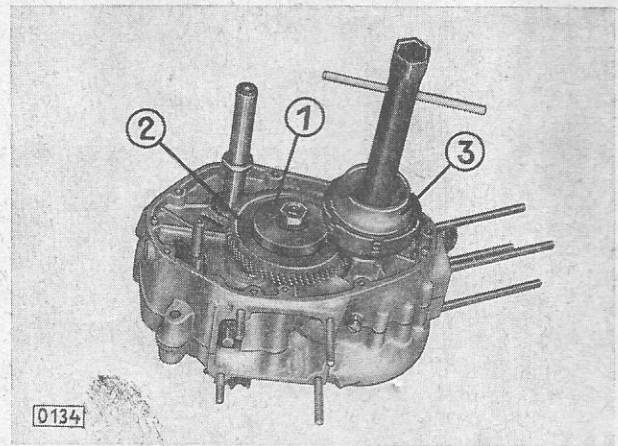
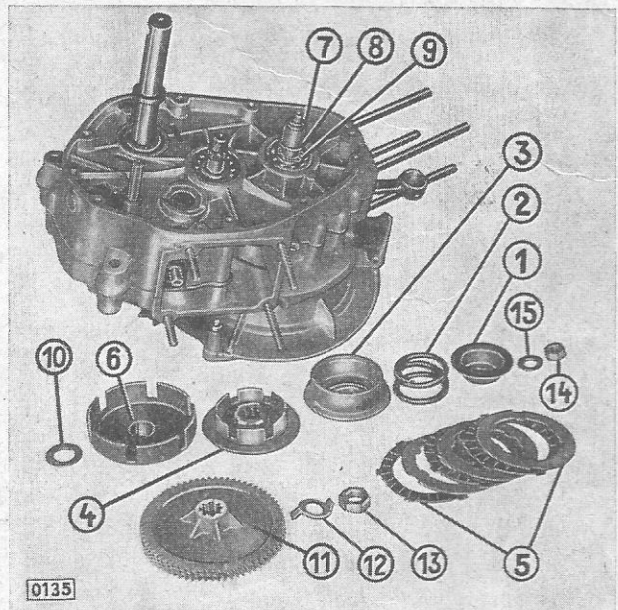
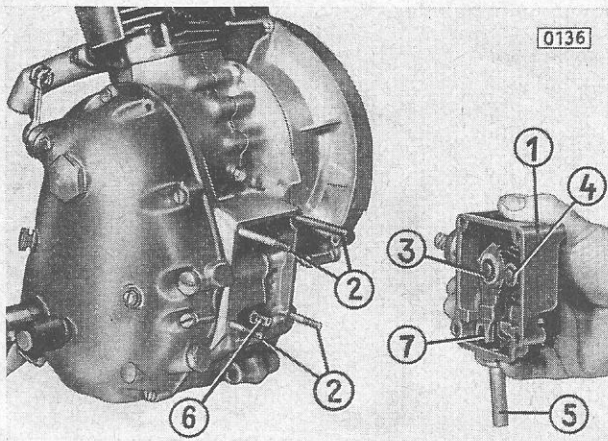

Fig. 7: Primary drive and clutch:
Fig. 8: Removing the driving gear and disassembling the clutch:
Fig. 9: Unscrew automatic shifting mechanism:
- 014.1 fig. 7/1) on the large driving pinion (fig. 7/2 and 8/11) and loosen nuts (fig. 8/13 and 8/14, first of all nuts on the large driving pinion, then nut of the clutch). Subsequently remove lock plates (fig. 8/12 and 8/15), spring collar of clutch spring (fig. 8/1), spring (fig. 8/2) and spring cage (fig. 7/3 and 8/3). Remove clutch hub (fig. 8/4), disk (fig. 8/5), thrust washer, clutch housing (fig. 8/6) bushing (fig. 8/7) and thrust washer (fig. 8/10). Take snap ring (fig. 8/9) off the crankshaft journal.
2. Remove large driving pinion (fig. 7/2 and 8/11).
After opening the four fastening screws, pull the shifting mechanism (fig. 9/1) off the four bolts (fig. 9/2). In case gear shifting does not give rise to complaint, do not disassemble any further the automatic shifting mechanism.
If disassembling reveals necessary, take down the two circlips (fig. 9/3) and (fig. 9/4), unscrew the fixing bolt (fig. 9/5) and take the various parts out of the gearshift housing (see page Δ). Assembling is done inversely.
selector fork (fig. 9/6) must catch in the recess of the gear shifting quadrant (fig. 9/7). Push on the automatic gear shifting mechanism completely and fix by means of the four nuts on the crankcase.
1. Fit large driving pinion (fig. 7/2 and 8/11) on the counter shaft. Mount snap ring (fig. 9/9) on the crankshaft journal and fit thrust washer (fig. 8/10, 22/15/1,7) and lubricated bushing (fig. 8/7) with cone facing upwards on the crankshaft journal.
2. Assemble clutch housing (fig. 8/6), thrust washer (26/15/1) and clutch hub (fig. 8/4) on the crankshaft journal.